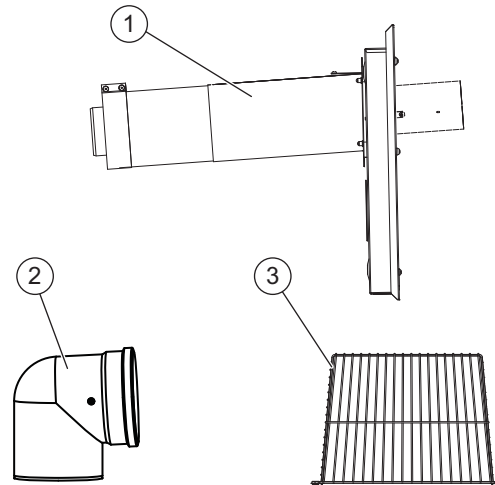

Fig. 4 Flue components
- [A] **Left hand flue outlet**, using items 1+2+3 from figure 4
- [B] **Rear flue outlet**, using items 1+3 from figure 4
- [C] **Right hand flue outlet**, using items 1+2+3 from figure 4